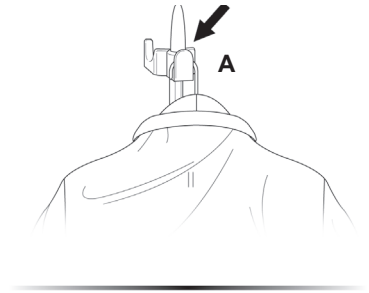

FIGURE 9
2. Place hanger (with garment) on Clothes Hanger Hook (FIGURE 9-A).
3. Direct Steam Nozzle towards bottom of garment. Steam will rise along inside and outside of fabric, removing wrinkles. Slowly slide Steam Nozzle vertically, from bottom to top of garment (FIGURE 9-B).